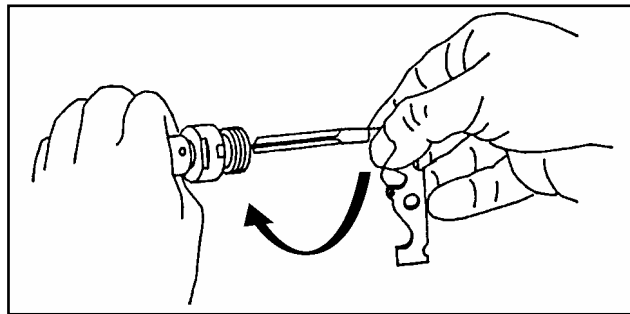

Figure 071-312-4025-16. Cleaning of the central hole
(3) Clean the two grooves of the regulator body using the protruding tips of the scraper (figure 071-312-4025-17).